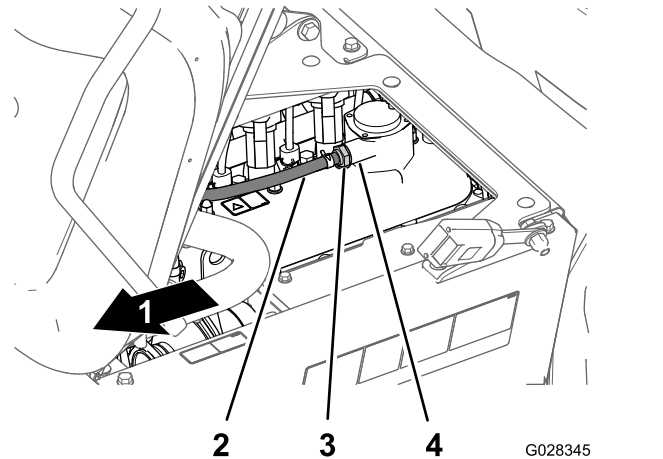

Figure 77
2. Remove the PCV valve from the fitting of the valve cover (Figure 77).
Note: If the internal restrictor of the valve rattles, the PCV valve is serviceable; if the internal restrictor is not free to rattle when shaken, replace the PCV valve (Figure 77).
4. Insert the PCV valve until it is fully seated in the seal for the valve-cover fitting (Figure 77).